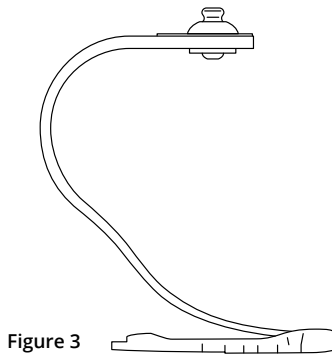

Figure 3
2. Quickly insert toes of the Obsidian blade into the rubber sole toe recesses as shown in Figure 3. No adhesive should have contacted the Obsidian blade at this point.